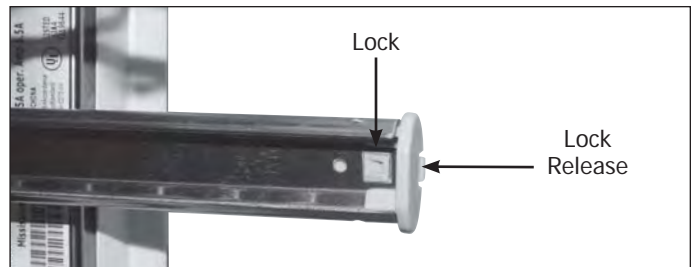

Figure 4-12.
3. Push lock release while pushing end cap off rail. (See Figure 4-12)